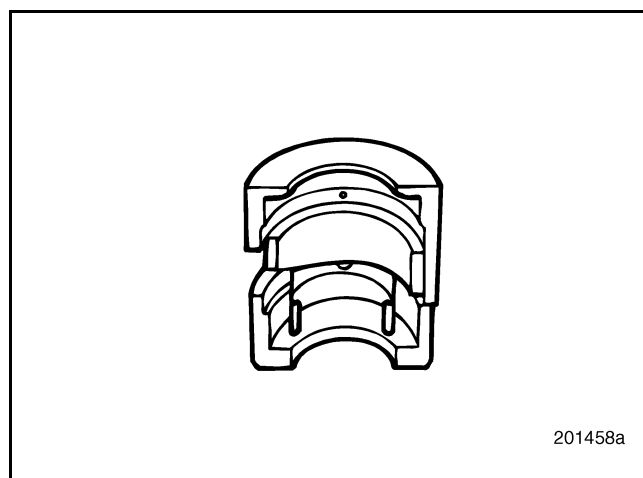

Figure 452 — Camshaft Removal/Installation Tool
5. Install the camshaft removal/installation tool J 41682 (Figure 452) in position on the rear segment of the camshaft, securing it with the clip to the shaft.